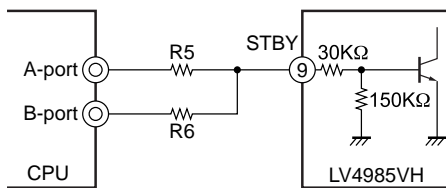

Fig. 1
As shown in Figure 1, by controlling the standby pin, the mode changeover can be made between standby mode, single-ended (SE) operating mode, and BTL operating mode.